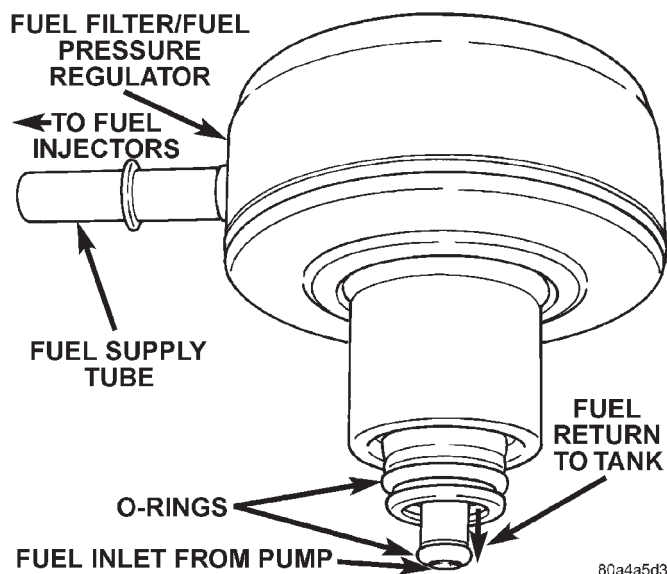

Fig. 24 Fuel Filter/Fuel Pressure Regulator O-Rings
(7) Before discarding filter/regulator assembly, inspect assembly to verify that o-rings (Fig. 24) are intact. If the smallest of the two o-rings can not be found on bottom of filter/regulator, it may be necessary to remove it from the fuel inlet passage in fuel pump module.